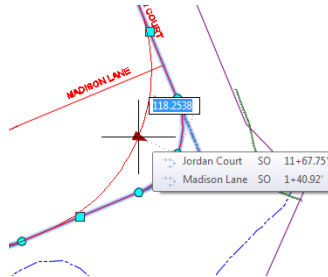

FIGURE 5.7 Moving the radius grip
5. Press Esc, and click the triangular grip located near the midpoint of the curve. Move your cursor to a different location without clicking. This grip controls the radius of the curve while maintaining tangency at both ends of the curve (see Figure 5.7).